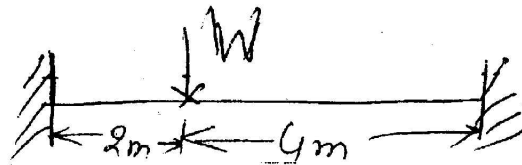

Fig. 5
- (b) Determine the collapse load of the fixed beam as shown in Fig.5.